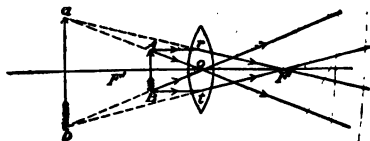

FIG. 384.—Construction of a virtual image by a convex lens.
is formed. (E) When the object is between P and the lens, the divergence of the rays is not entirely overcome, so that the rays *appear to proceed from points back of the object*, thus forming an *erect, larger, virtual image* of the object. (See Fig. 384.) This last arrangement illustrates the *simple microscope*.